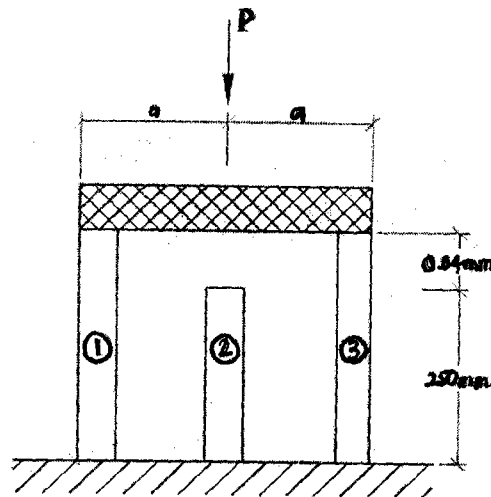

Figure 9/Gambarajah 9
- (iii) Bars 1 and 2 are made of brass and bar 3 is made of steel. If all bars have the same cross sectional area of 2000mm^2 , determine load P which will cause an axial stress in the steel to be half of the axial stress in the brass. ($E_{\text{steel}} = 200 \times 10^6 \text{ KN/m}^2$, $E_{\text{brass}} = 100 \times 10^6 \text{ KN/m}^2$). (see **Figure 9**)